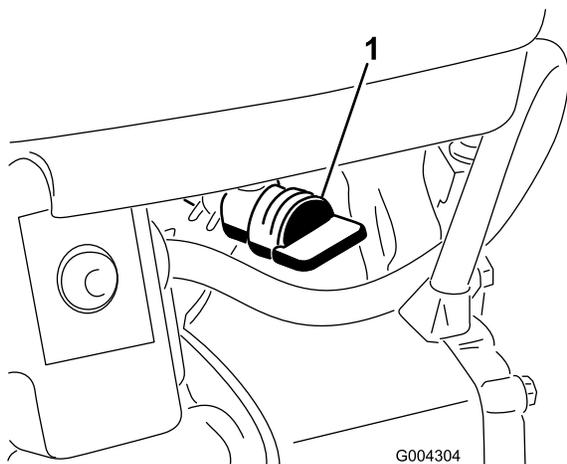

Figure 20
4. Open the fuel shutoff valve below the fuel tank (Figure 20).
5. Close the fuel shutoff valve (Figure 20).